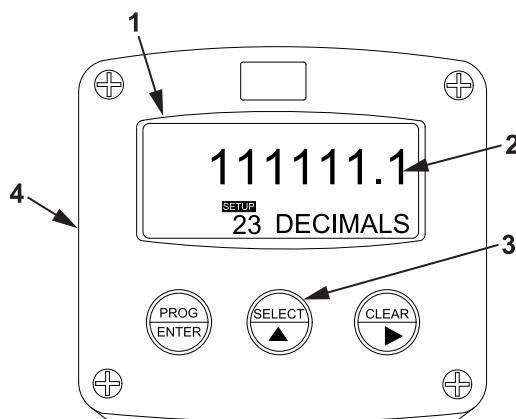

Figure 12. 111111.1 Display.
- f. Verify that 111111.1 (Figure 12, Item 2) appears on the display screen (Figure 12, Item 1). If 111111.1 (Figure 12, Item 2) does not appear, perform the procedure to program tank volume meter monitor settings and select 111111.1 (Figure 12, Item 2).
- g. Press the SELECT key (Figure 12, Item 3) on the tank volume meter monitor (Figure 12, Item 4).